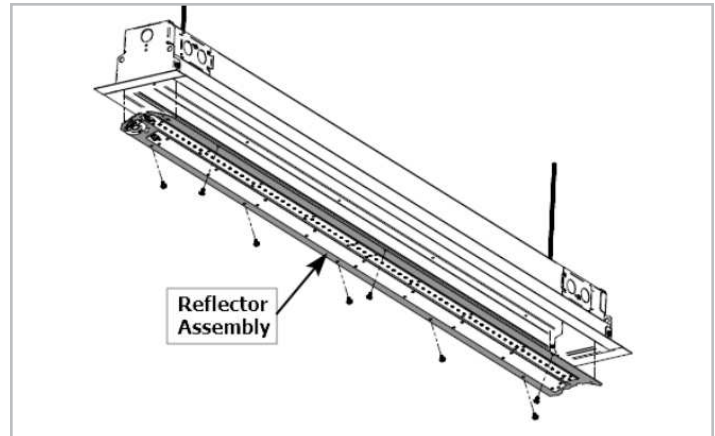

Figure 10: Reflector Removal
4. Mounting holes can be accessed by either removing the Access Plate or by removing the lens and reflector assembly. See *Figure 8*, *Figure 9* & *Figure 10*.
6. To remove Reflector Assembly, remove (8) screws. See *Figure 10*.
13. Reattach Reflector Assembly. See *Figure 10*.
4. To remove Reflector Assembly, remove (8) screws. See *Figure 10*.
10. Reattach Reflector Assembly. See *Figure 10*.